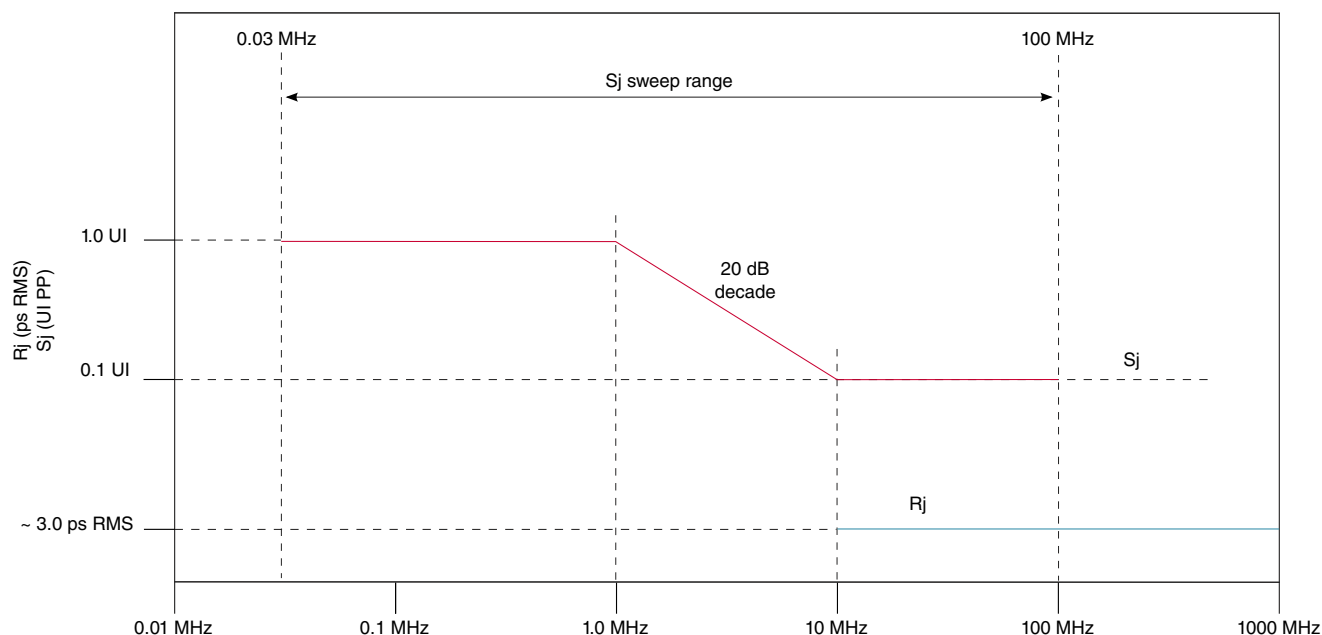

Figure 39. Swept sinusoidal jitter mask
3. The sinusoidal jitter in the total jitter tolerance may have any amplitude and frequency as shown in Figure 39.
4. Random jitter (Rj) is applied over the following range: The low frequency limit may be between 1.5 and 10 MHz, and the upper limit is 1.0 GHz. See Figure 39 for details. Rj may be adjusted to meet the 0.3 UI value for T_{RX-SV-8G}.